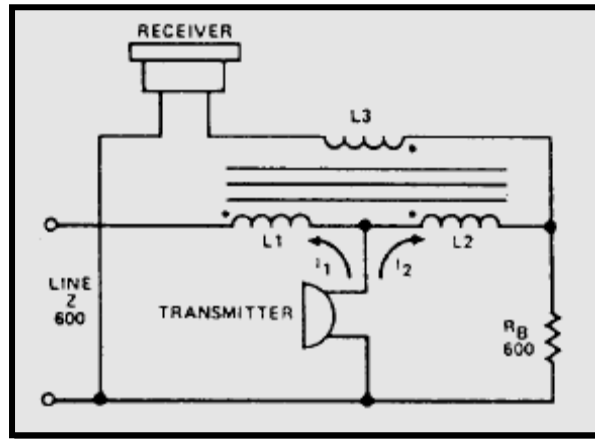

Figure 6-15.—Schematic diagram of the sidetone
**SIDETONE CIRCUIT.**— Figure 6-15 is a simplified schematic diagram of the receiver sidetone circuit. Because current will not flow through a balanced circuit, the turns ratio of inductors L1 and L2 is unbalanced by a predetermined amount and the value of resistor RB is changed so as not to match the line impedance. This way, a controlled amount of signal can be induced into L3 to be used as receiver sidetone.